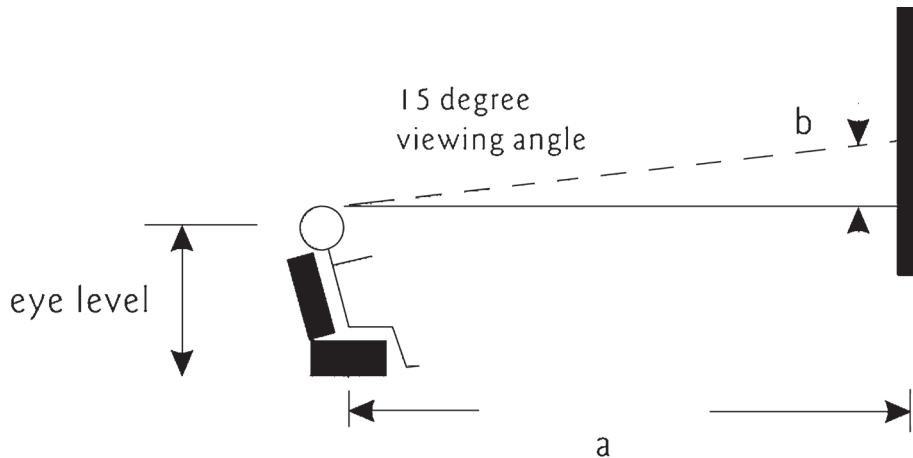

Fig. 1
- The distance from your viewing location to the wall (Fig 1).